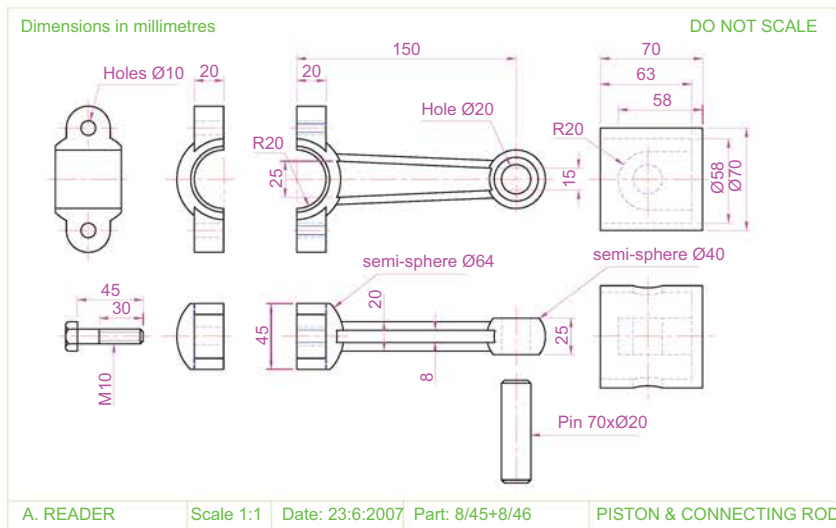
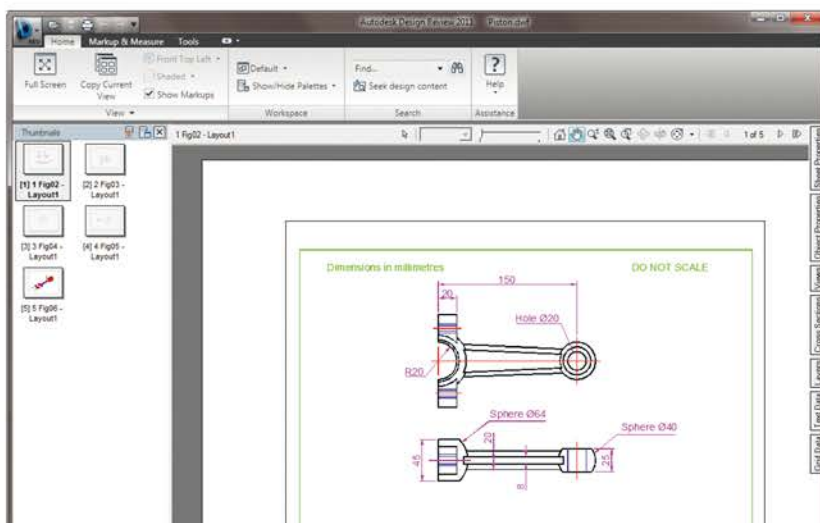
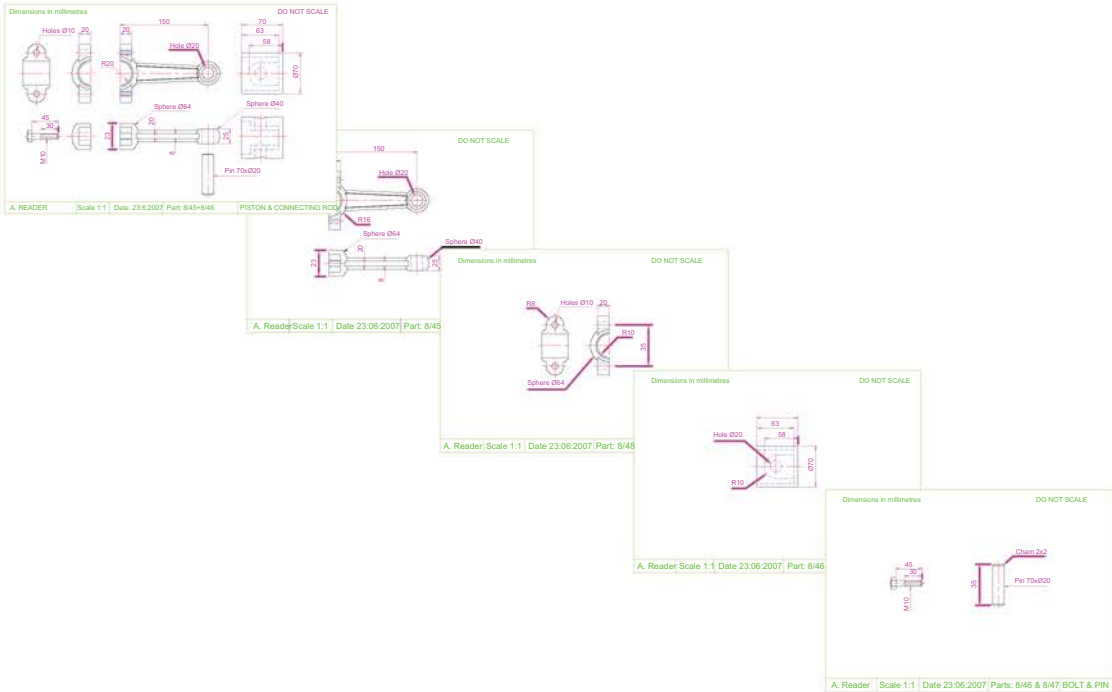

Fig. 15.15 Exercise 1 – exploded orthographic projection
Fig. 15.16 The DWF for Exercise 1
Fig. 15.17 Exercise 1 – the five drawings in the sheet set
1. Fig. 15.15 is an exploded orthographic projection of the parts of a piston and its connecting rod. There are four parts in the assembly. Small drawings of the required sheet set are shown in Fig. 15.17.
Construct the drawing Fig. 15.15 and also the four drawings of its parts. Save each of the drawings in a **Layout1** format and construct the sheet set (Fig. 15.16) that contains the five drawings.